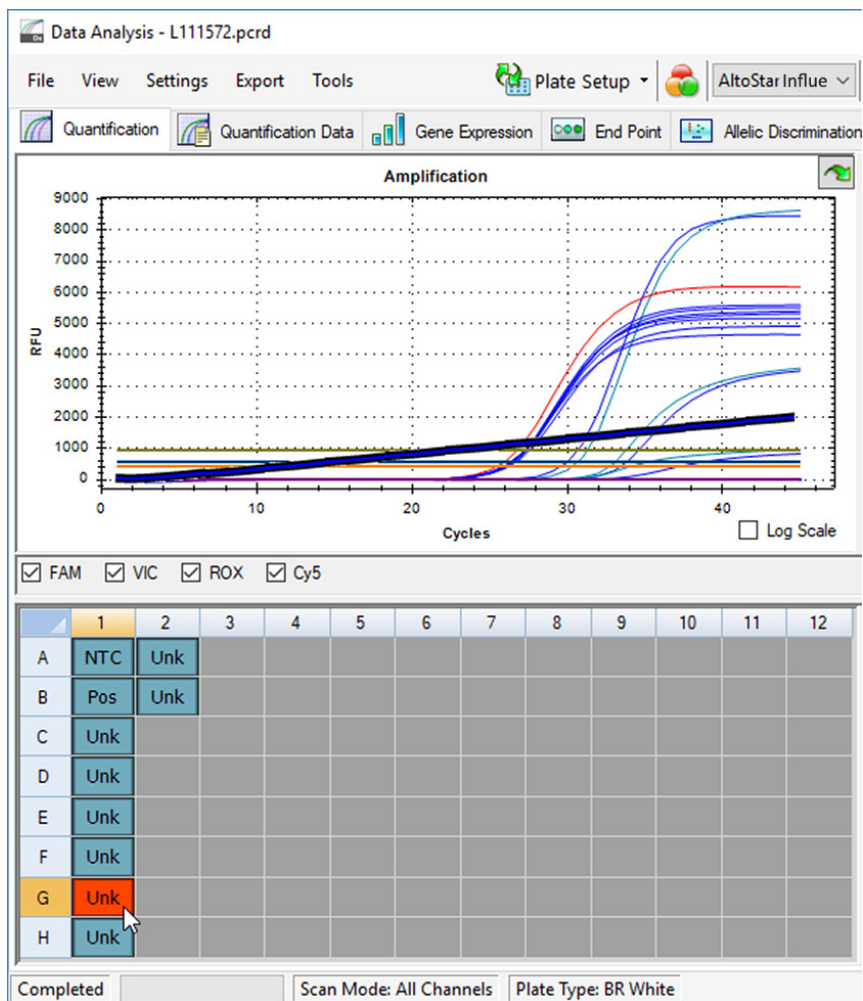

Figure 6: Data Analysis window: irregular PCR signal
- Identify wells with irregular PCR signals (linear signal increase, signal spikes, etc.) in any of the FAM™ (influenza A virus target), VIC™ (IC), Cy5 (influenza B virus target) or ROX™ [influenza A (H1N1)pdm09 virus target] detection channels (see figure 6).